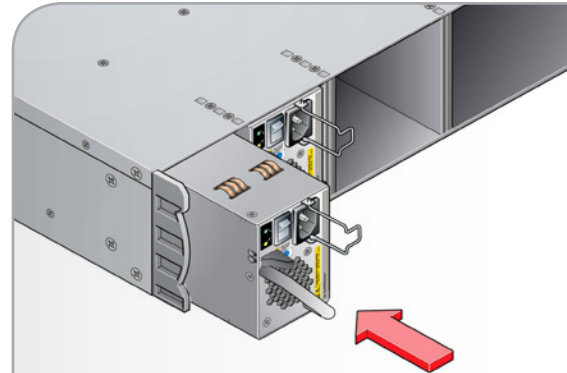

Fig. 77 - Inserting a Power Supply Module
2. Slide the module into the enclosure (Fig. 77).